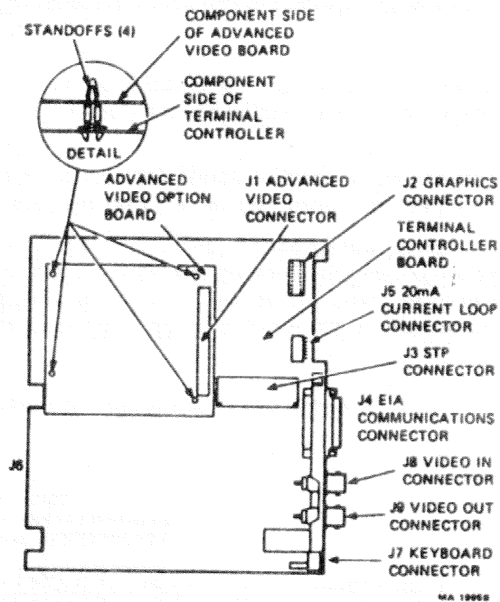

Figure 6-1 Advanced Video Option Installation
3. Locate the four mounting holes in the terminal controller board and place a standoff in each mounting hole (Figure 6-1).